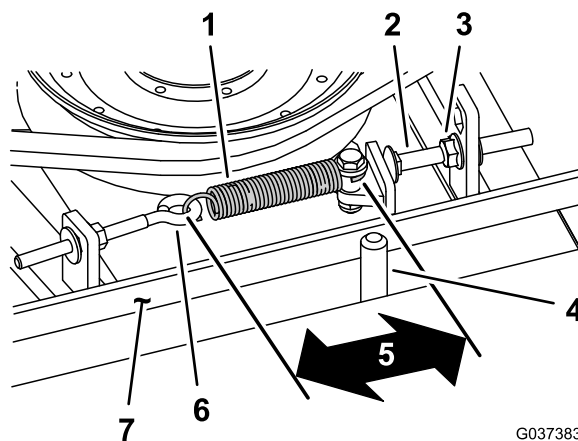

Figure 102
When properly tensioned, the inside measurement of the extension spring (hook to hook) should be approximately 8.3 to 9.5 cm (3-1/4 to 3-3/4 inches). Once the correct spring tension is attained, adjust the stop bolt (carriage bolt) until there is approximately 2 to 5 mm (0.065 to 0.185 inch) clearance between the head of the bolt and the idler arm (Figure 102).
**Note:** Ensure that the belt is positioned on the spring side of the belt guide (Figure 102).
2. Loosen the eye bolt (Figure 102).
3. Loosen the flange nut securing the stop bolt to the mounting tab and move the idler pulley away from the belt (Figure 102).
9. Connect the extension spring (Figure 102) to the eye bolt and tension the belt as follows: